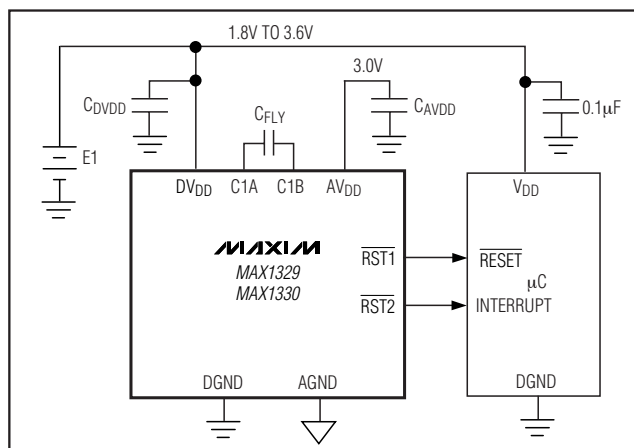

Figure 25. Power-Supply Circuit Using a Battery for DVDD and Internal Charge Pump Set to 3.0V for AVDD
Figure 25 shows DVDD is powered from a battery with the charge-pump output set to 3.0V. The charge pump can draw high peak currents from DVDD under maximum load. Select an appropriately sized bypass capacitor for DVDD ( $\geq 10$  times  $C_{FLY}$ ). Supply ripple can be reduced by increasing CAVDD and/or the charge-pump clock frequency.
**Table 32. External Component Selection for 25mA Output Current and  $2V_{DVDD} - V_{AVDD} \geq 0.4V$  (Figure 25)**